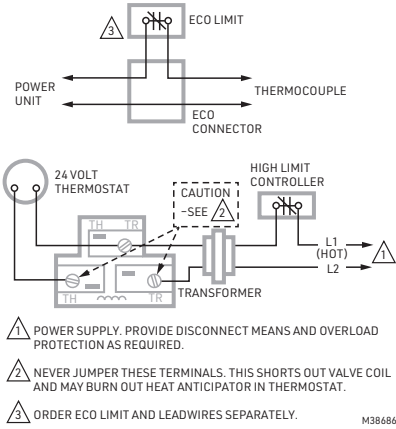

Fig. 6. Typical wiring for 24 V system.
All wiring must comply with local codes and ordinances. Be sure power is off before making wiring connections. On systems with 24 V valve operator, NEVER apply a jumper across (or short) the valve coil terminals, even temporarily. See Fig. 6. This may burn out heat anticipator in thermostat.
2. Connect leads to operator terminals as shown in Fig. 6.